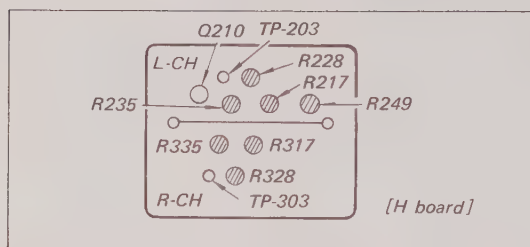

Fig. 9-3. Parts location
5. Adjust R217 on the H board for a 0 dB reading. See Fig. 9-3.
6. Repeat Steps 1 to 4 for the right channel and adjust R317 for a 0 dB reading. See Fig. 9-3.
7. If the conditions in Steps 5 and 6 are not met, adjust AGC balance, R249 (See Fig. 9-3) on the H board to secure proper operation.
2. Connect an ac VTVM or oscilloscope to TP-203 (TP-303) on the H board. See Fig. 9-3.
5. Short the base of Q210 on the H board to ground. Refer to Fig. 9-3.
6. If the condition of Step 5 is not met, adjust R228 (See Fig. 9-3) and repeat Steps 2 to 5.
7. Repeat Steps 1 to 6 for the right channel. Adjust R328 (See Fig. 9-3) as required in Step 6.
1. Short the base of Q210 on the H board to ground. Refer to Fig. 9-3.
5. If the conditions in Step 4 cannot be met, reset R235 (See Fig. 9-3) and repeat Steps 1-4.